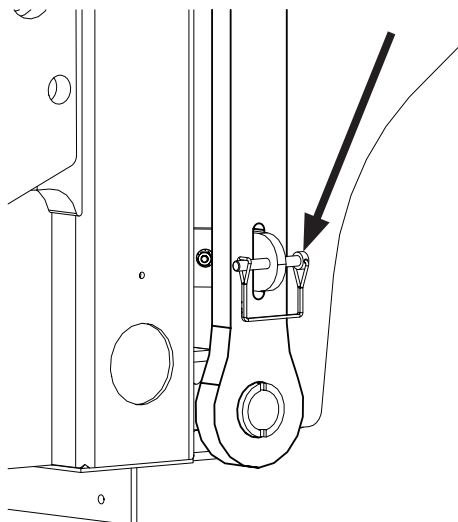

Figure 27
4. Re-engage the pin securing the tailgate prop to the tailgate in the stored position on both sides of the tailgate (Figure 27).